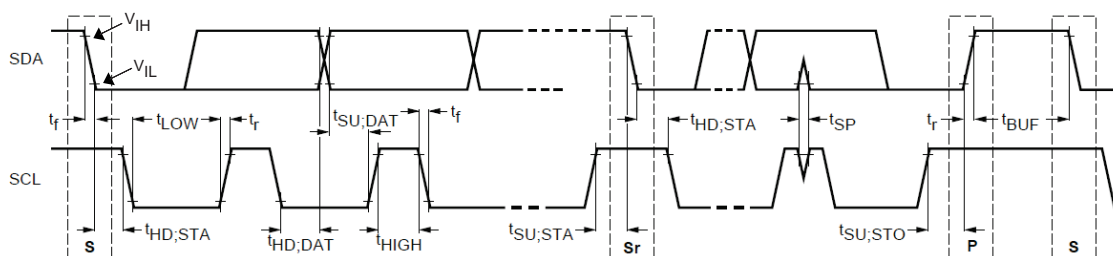

Figure 1. I²C Timing Definitions (reproduced from Phillips I²C spec Version 1.1)
(1) Specified by design. Not production tested.
(2) Refer to Figure 1 for I²C Timing Definitions
(3) C_b = capacitance of bus line in pF
(2) Refer to Figure 1 below for I²C Timing Definitions